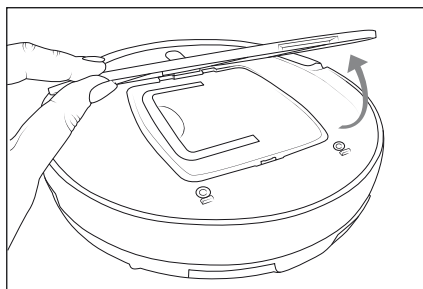

Fig. 5
- 1) Remove the cover **13** of the dust container **12** and pull it out of the appliance by the handle (see Fig. 5 and 6).